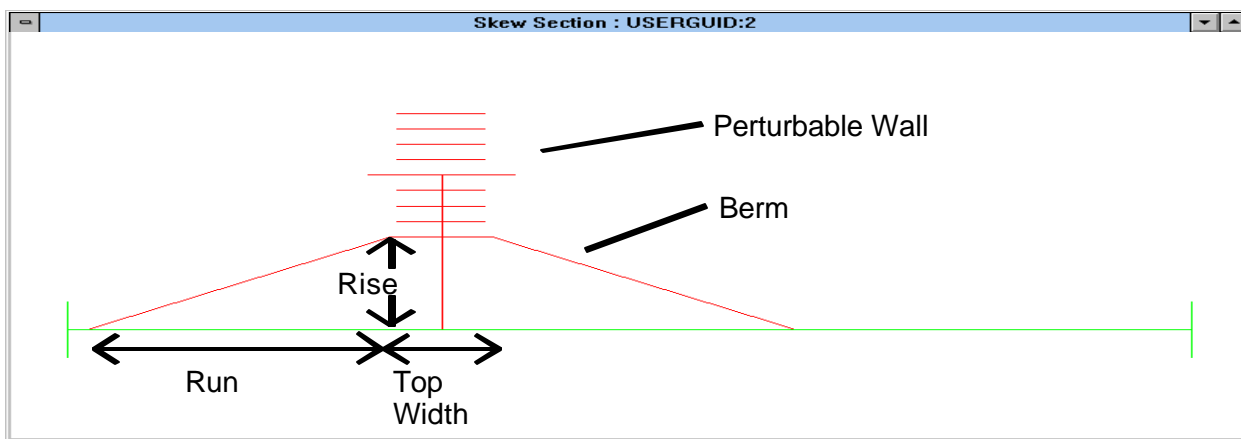

Figure 39. TNM wall barrier on top of a berm barrier.
- For berm barriers, enter the Side Slope (Run:Rise) in the dialog header. The skew section of Figure 39 shows these two parameters. (These two parameters flow from the default barrier's header to the header of subsequent barriers.)
Note: TNM will produce input check errors if the above conditions were not followed. Figure 39 shows a wall barrier directly on top of a berm barrier.